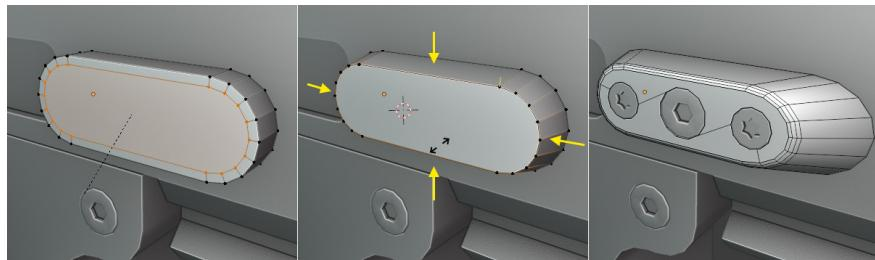

Figure 3.32 – Insert Faces (left), Sliding (middle), Adding screw (right)
5. Make a shape like the one on the left in *Figure 3.32*. Select the face on the side and press **I** to insert a new face. Rather than simply creating a smaller face, this tool will create a face with edges equally distant to the edges on the face we are inserting it into at every point.